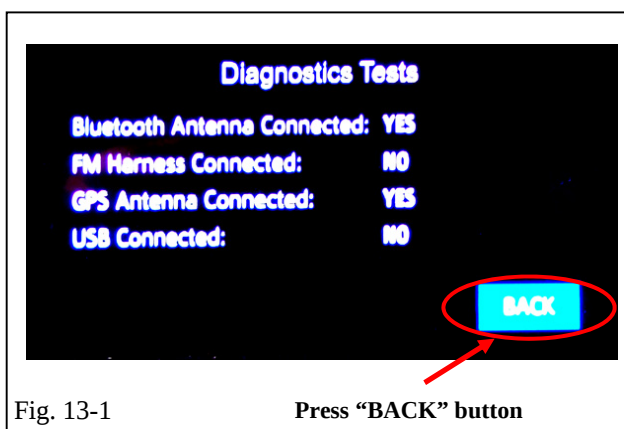

Fig. 13-1
- (a) Press the "BACK" button (Fig. 13-1).